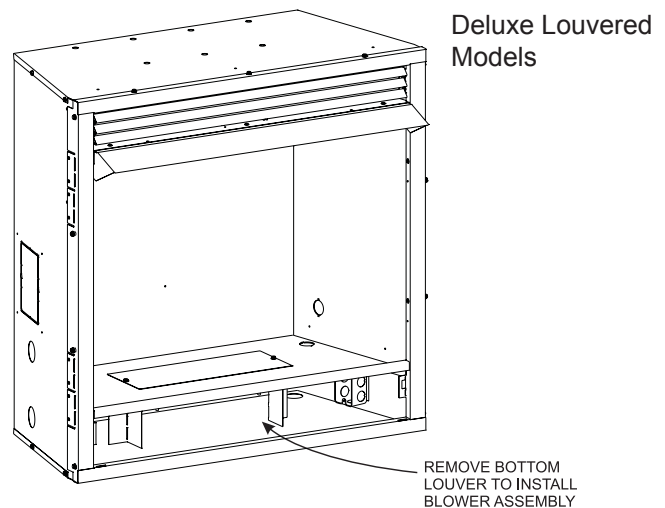

Figure 14
3. Determine which type of firebox you have prior to installation. See Figures 14 and 15.